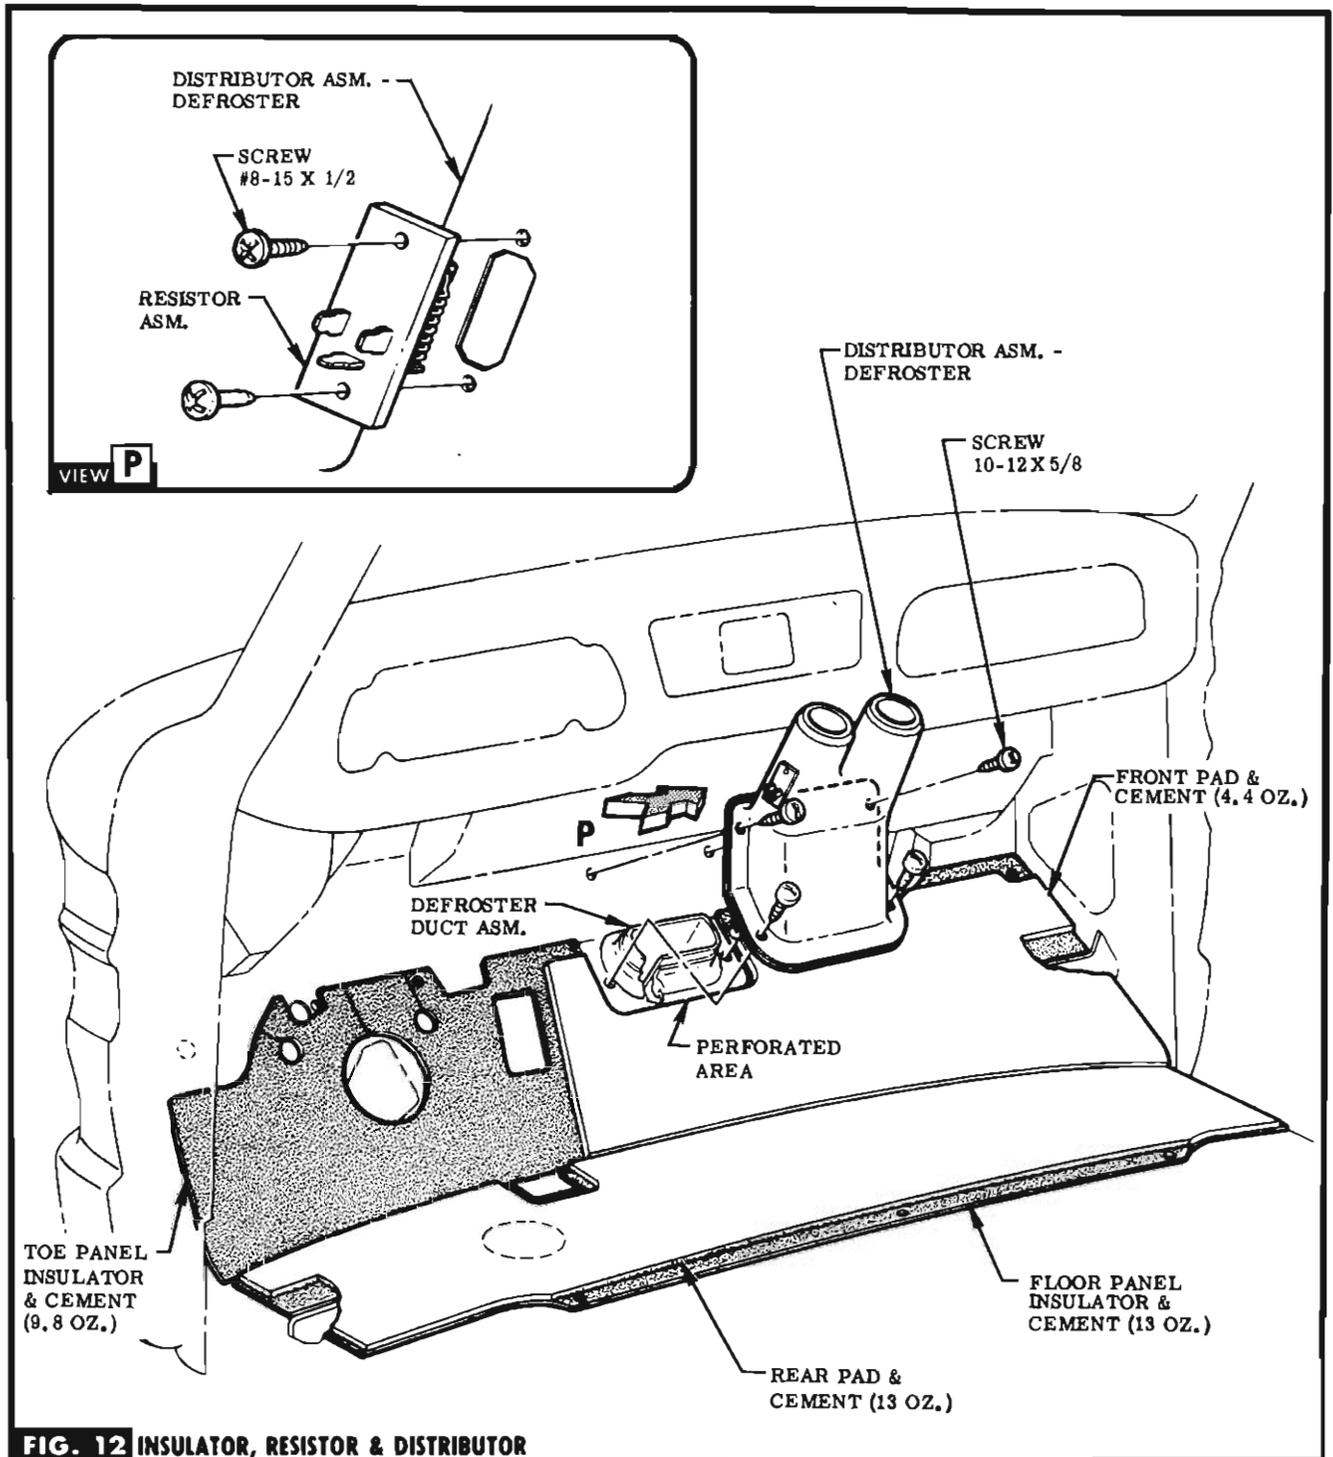

FIG. 12 INSULATOR, RESISTOR & DISTRIBUTOR
STEP 64 CEMENT INSULATORS TO TOE PANEL & FLOOR PANEL, & INSTALL FLOOR MAT, SEE FIG. 12.
STEP 66 INSTALL DISTRIBUTOR WITH SCREWS (IN BAG A). SEE FIG. 12.